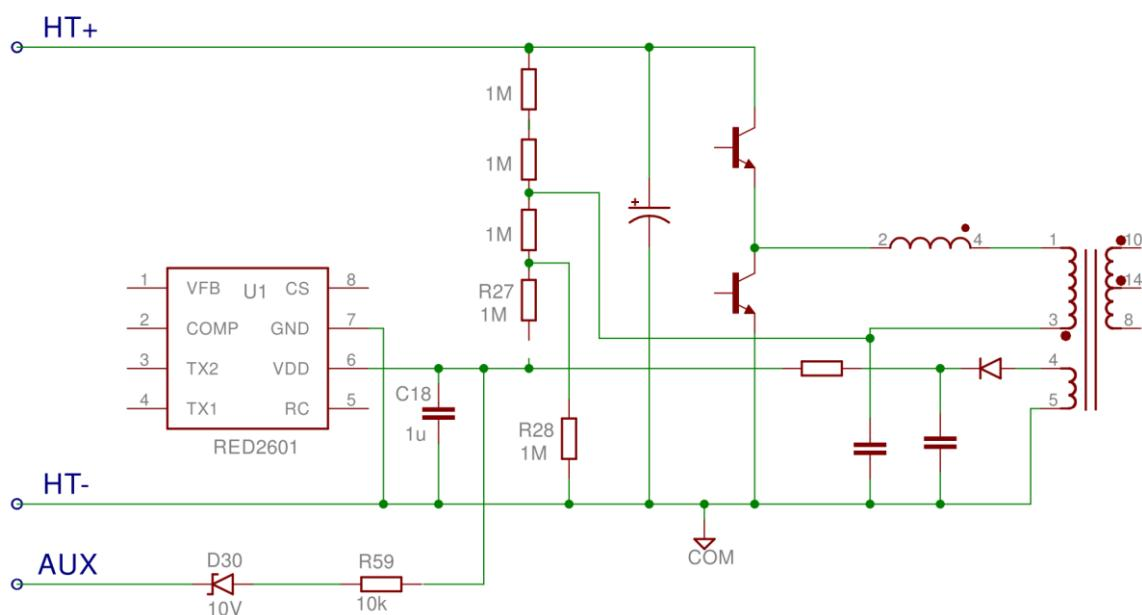

Figure 5: Schematic detail
- Connect the bottom of the pullup resistors to GND instead so that the half-bridge is balanced before it is turned on. From figure 5 below, disconnect startup resistor R27 and add R28